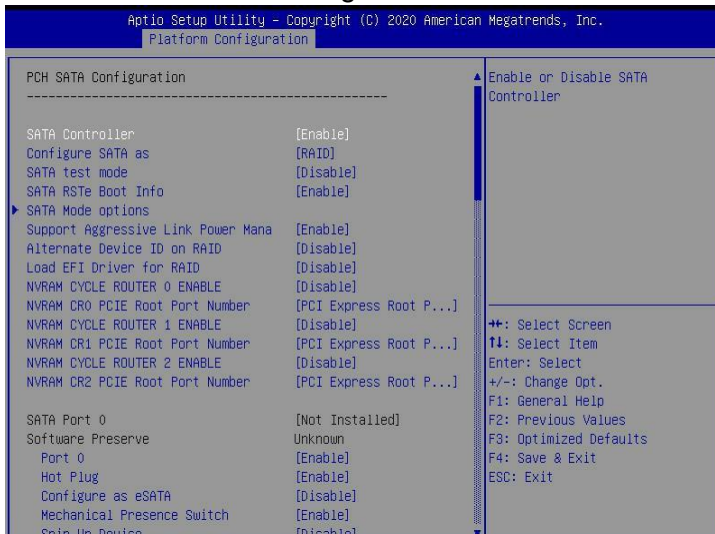

Figure 6-13
- ❖ Figure 6-13 PCH SATA Configuration interface